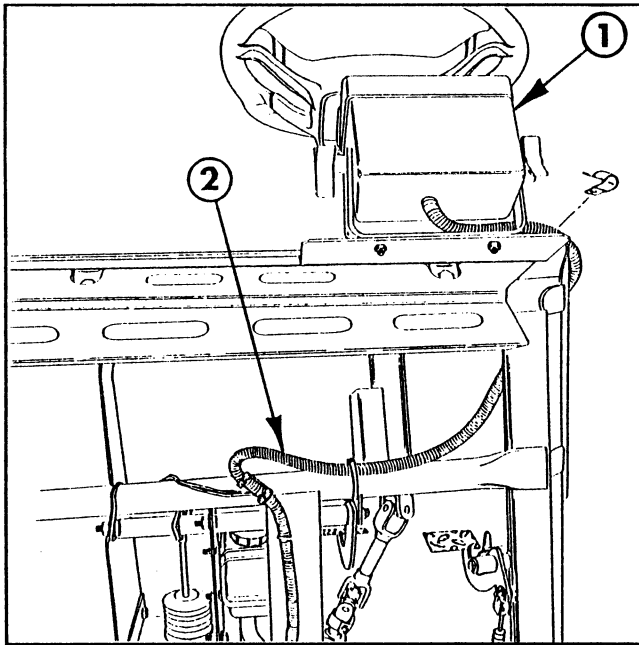

FIG. 6
17. Route the control cable under the dash and through the hole in the floorboard. See FIG. 6. Loosen the bolts on the channel under the floorboard and feed the cable through the channel.